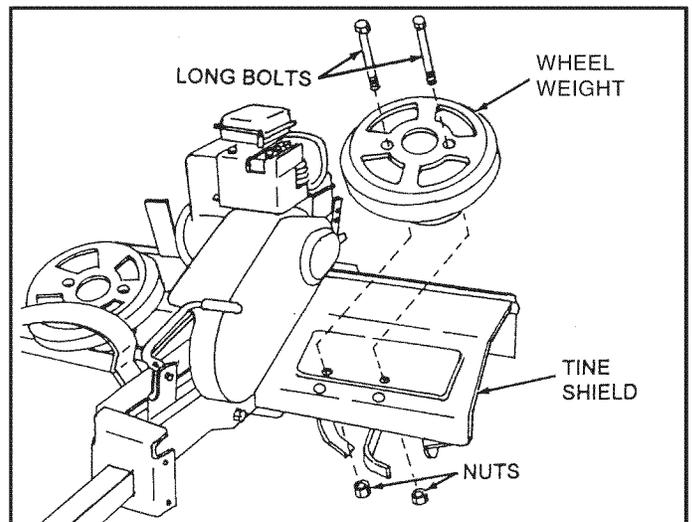

FIGURE 4
- Remove two Hex Bolts and Nuts from each Tine Shield, located approximately 3-1/2" from the front edge. See Figure 4.
- Place (Wheel) Weights on Tine Shield and secure with long Bolts and Nuts furnished with the Weights. See Figure 4.